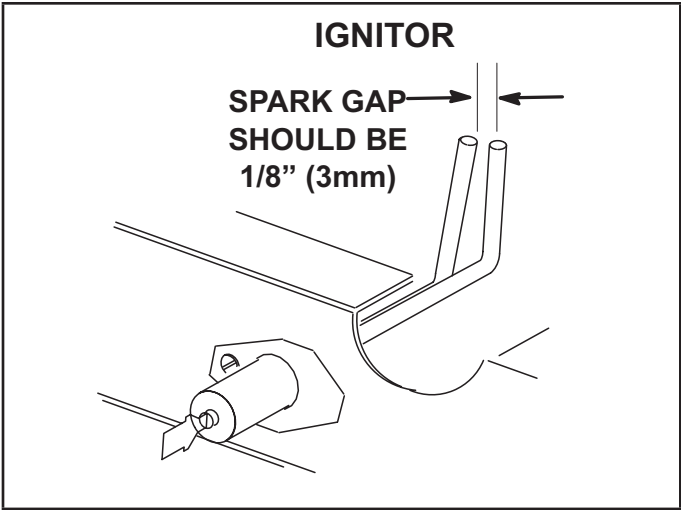

FIGURE 37
- 4 - Locate the ignitor under the left burners. Check ignitor spark gap with appropriately sized twist drills or feeler gauges. See FIGURE 37.
- 4 - Check the alignment of the ignitor and the sensor as shown in FIGURE 37 and TABLE 18.